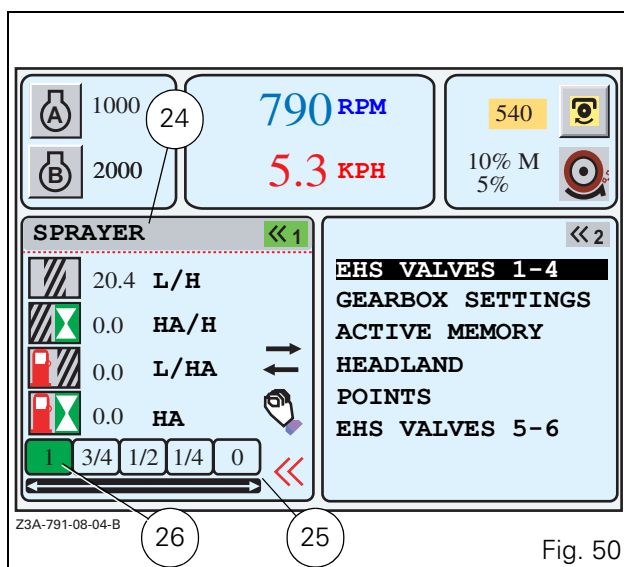
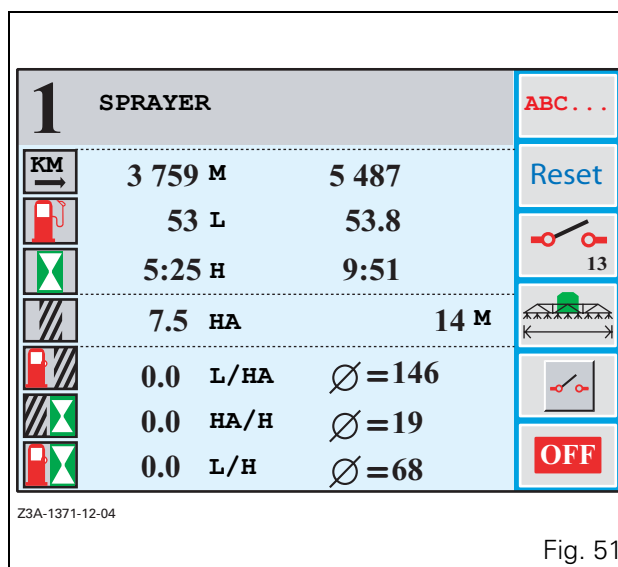

Fig. 50
Fig. 51
- Validate by pressing the encoder or the key <<1. The window (Fig. 50) is displayed.
Field parameters: description (Fig. 50)
-  Allows field or transport parameters to be selected. When the window (Fig. 50) is open and active, the window (Fig. 53) is displayed.
-  Shortcut icon providing access to the **MEMORIES** application by pressing the key <<5 when the window is active. The window (Fig. 51) is displayed. (see section 7.3. MEMORIES application)
NOTE: When the window (Fig. 51) is open, press the key **ESC**. The window (Fig. 50) is displayed again if it was open previously.
NOTE: To carry out adjustments in the window (Fig. 51), see section 7.3. (MEMORIES application).
To select the correct icon, press the key <<6 when the window (Fig. 50) is open and the implement memory window is active.
When the total width of the implement is working, the first icon must be displayed in reverse video (26 Fig. 50). Then as the tractor moves forwards, the implement width must be reduced. For this purpose, press the key <<6 to select the corresponding fraction.
Allows field or transport parameters to be selected. When the window (Fig. 53) is open and active, the window (Fig. 50) is displayed.
Shortcut icon providing access to the **MEMORIES** application by pressing the key «₅ when the window is active. The window (Fig. 51) is displayed. (see section 7.3. MEMORIES application)